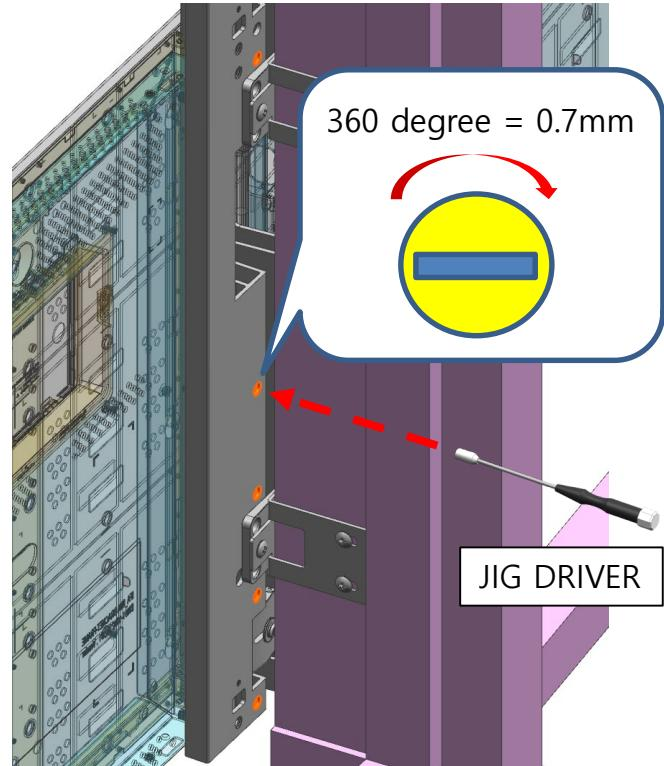

Fig.2
* The SCREW is controlled using the JIG DRIVER (-) at the rear. (Fig.2)